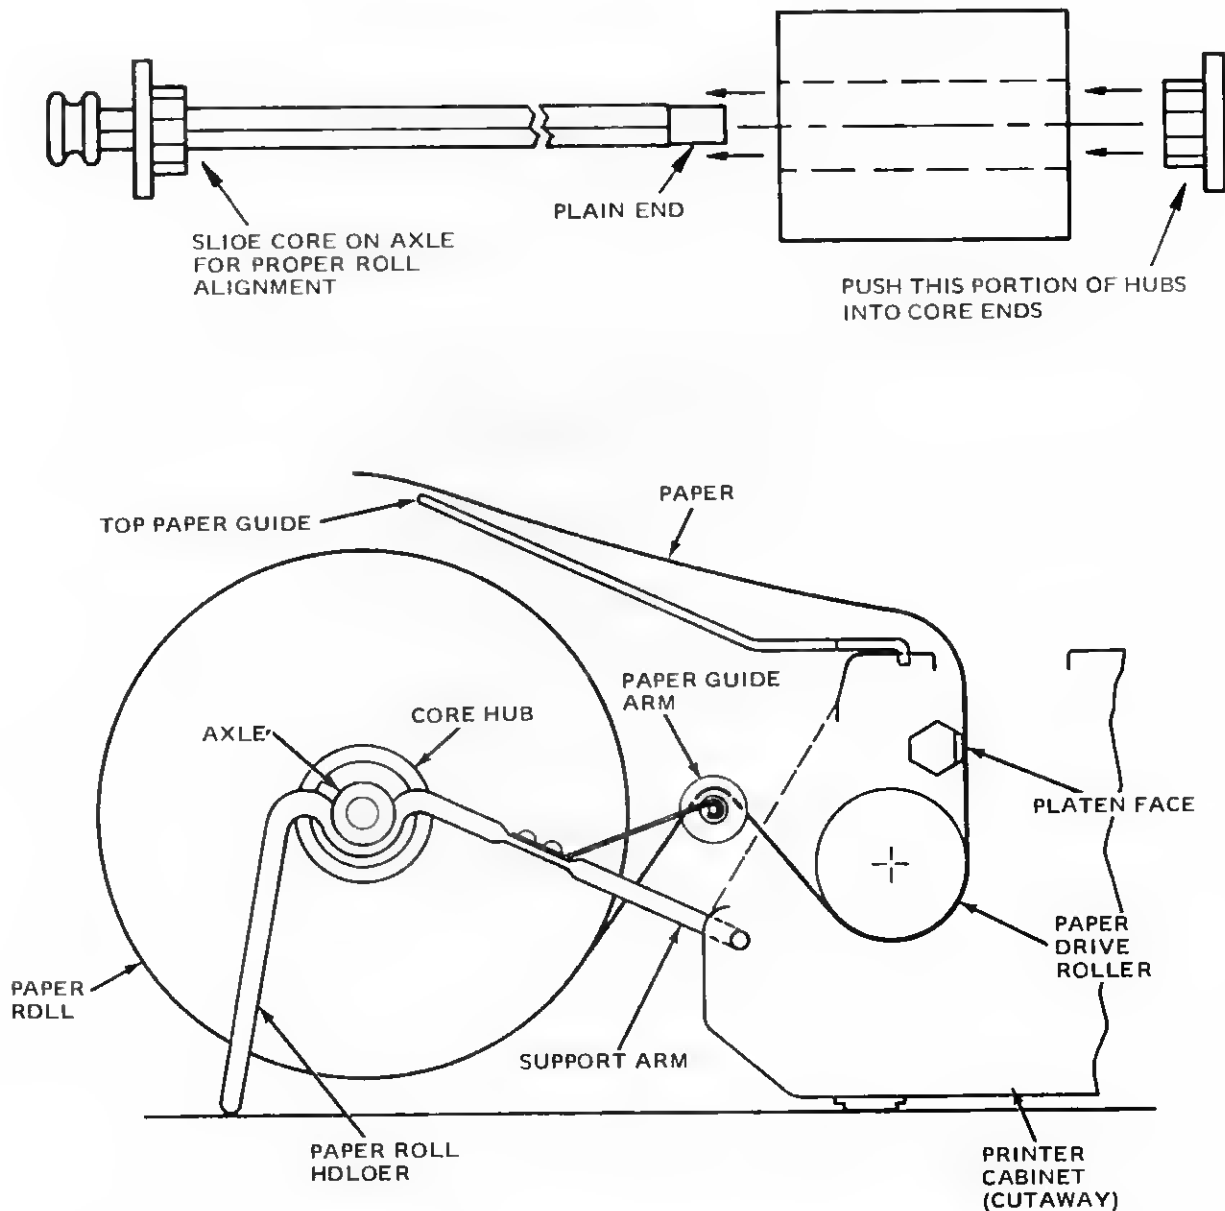

Figure 2. ROLL PAPER HOLDER INSTALLATION
2. Refer to Figure 2 and squeeze the support arms together slightly.
5. Feed the paper over the paper guide arm (Figure 2) and through the bottom rear of the printer under the paper drive roller.